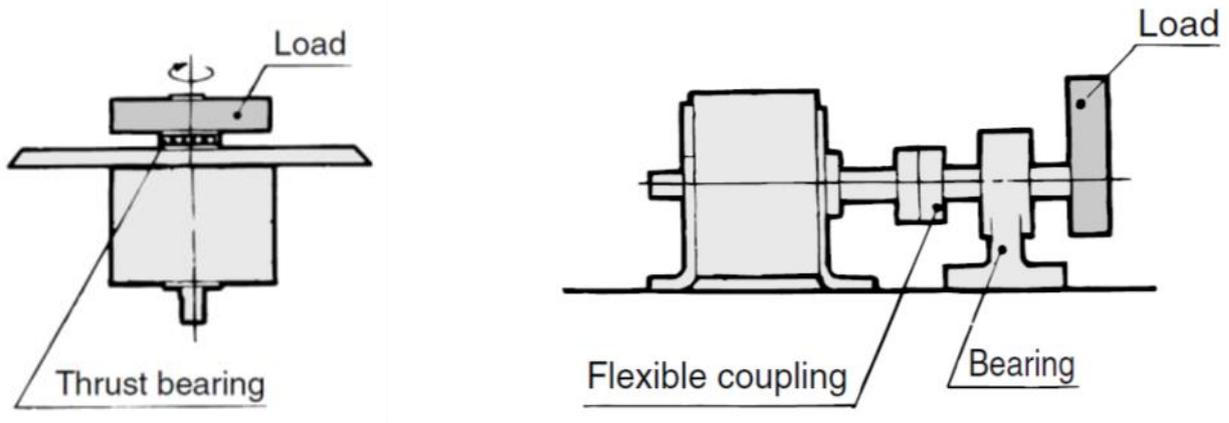

Figure 2
② It is recommended to use the method in Figure 2 to avoid applying direct load to the shaft for better operating conditions.